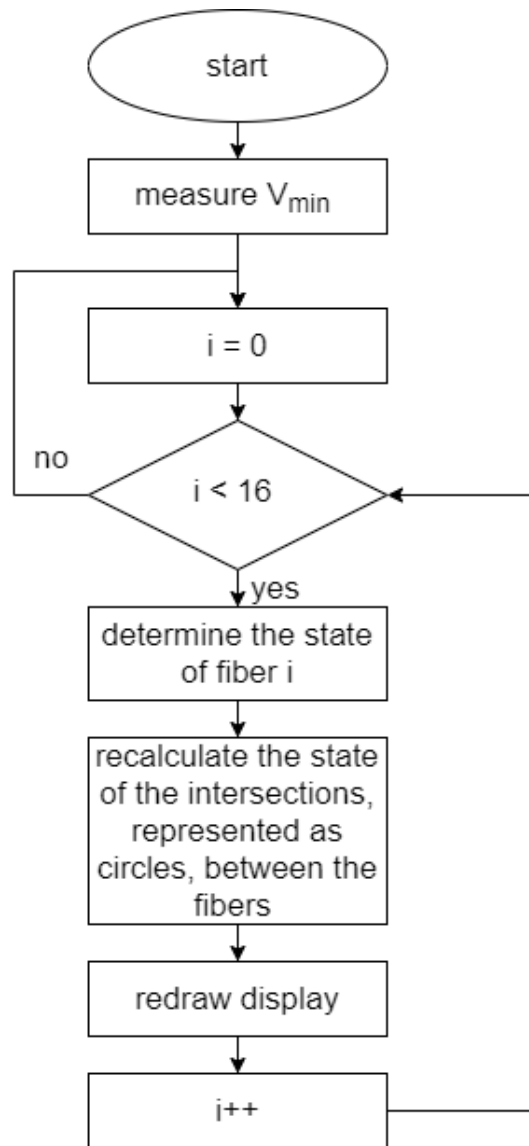

Figure 5: High level flowchart of program.
A high-level flowchart of the program is shown in Figure 5. The program first measures V_{\min} of each fiber without pressure. These baseline voltages make up the V_{\max} values from (1) and are used to determine the state of the fibers. The program then enters its main loop. It measures output voltage V_{out} of each fiber, calculates its average, and then its state using (1). Next, the state of each intersection point between a pair of fibers is obtained as the average of the two associated states. Lastly, the updated states of the intersections are converted to color values and are used to redraw the circles.